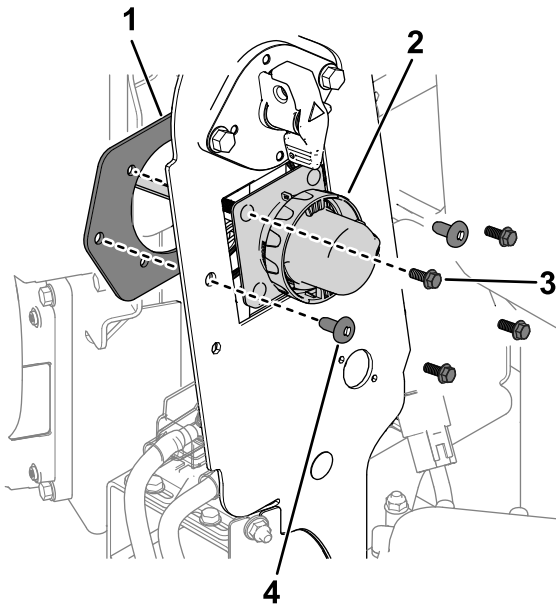

Figure 2
2. Remove the hardware that secures the charger connector and connector plate to the frame panel (Figure 2).